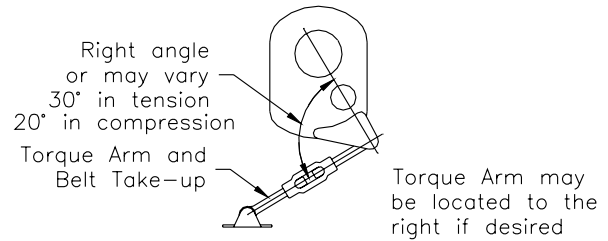

Figure 4 - Installation of Torque Arm Fulcrum
- Install torque arm fulcrum on a rigid support so that the torque arm will be approximately at right angles ($\pm 30^\circ$) to the center line through the driven shaft and the torque arm anchor screw. (See Fig. 4.) Make sure that there is sufficient take-up in the turnbuckle for belt tension adjustment when using V-belt drive.